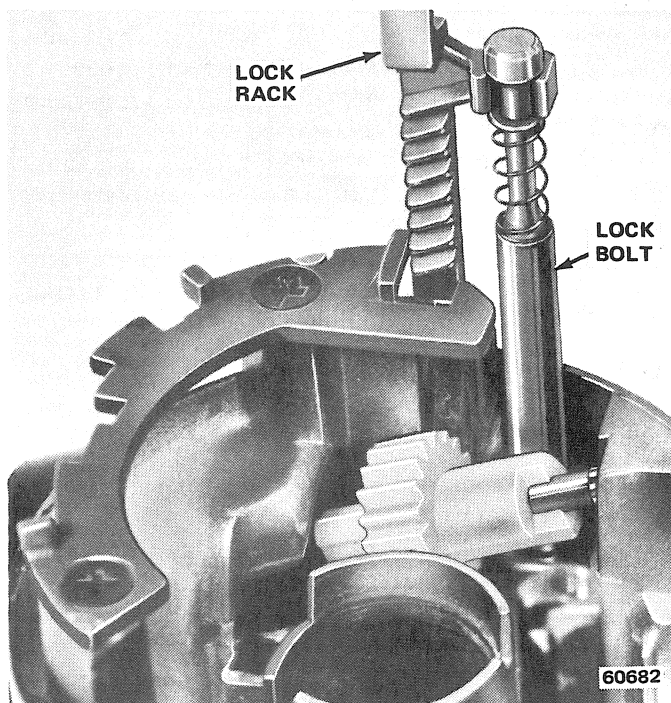

Fig. 2J-33 Lock Rack and Lock Bolt Installation
(10) Install shift quadrant lamp and lamp cover.
(11) Install shift quadrant indicator and press retainer clips into place with flat side toward bowl.
(12) Assemble lock bolt and lock rack (fig. 2J-18).
(13) Install assembled lock bolt and lock rack in shift bowl (fig. 2J-33).
NOTE: The block tooth of the lock rack must engage the block tooth of the sector (fig. 2J-19).
(14) Install nylon thrust cup in upper housing with flared end of cup facing outward (fig. 2J-28).